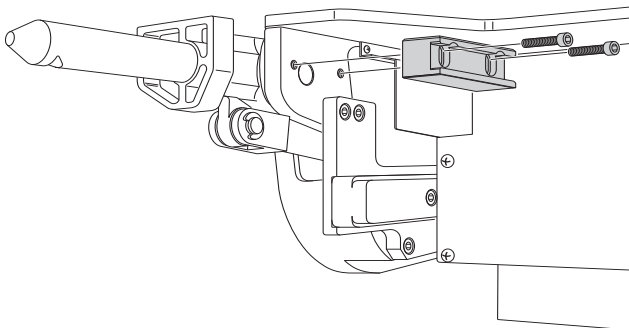

Figure 4. 3600 Bracket Installation
2. Using the existing tapped holes, attach the Uro Bracket to the side frame with two Allen Bolts (Figure 4).